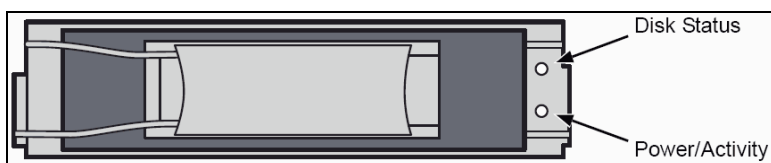
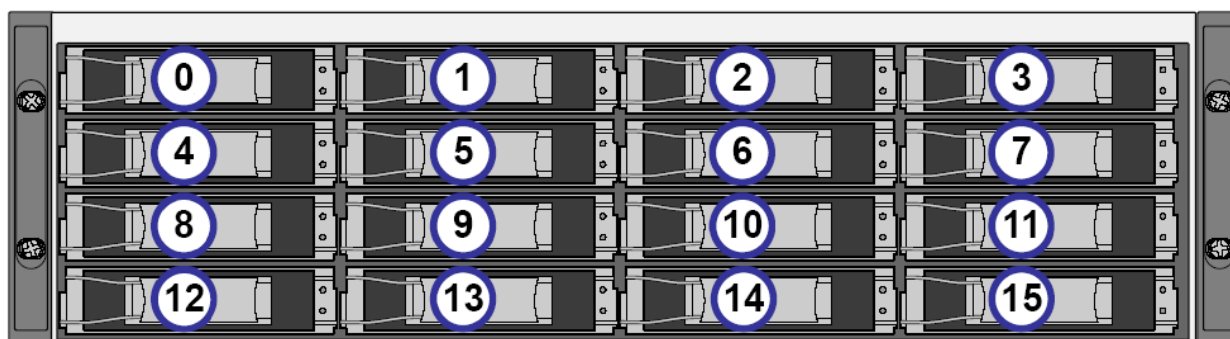

Figure 2-3. Detailed View of the Drive Carrier
Figure 2-4. Drive Slot Numbers on the DSN-4X00 Primary Array
- **Drive Slots** - the front panel provides access to 16 drive slots (depending on your specific model), as shown in Figure 2-4.
- **Drive Carriers** - hard disk drives are mounted on a drive carrier for easy insertion or removal. The drive carriers have a squeeze lever for installing and removing drives, and two status LEDs (see Figure 2-3 and Table 2-2). Each drive carrier has a corresponding drive slot number (see Figure 2-4). Drive carriers must be installed in all drive slots that are not occupied by a hard disk drive to maintain proper air flow for cooling the system.